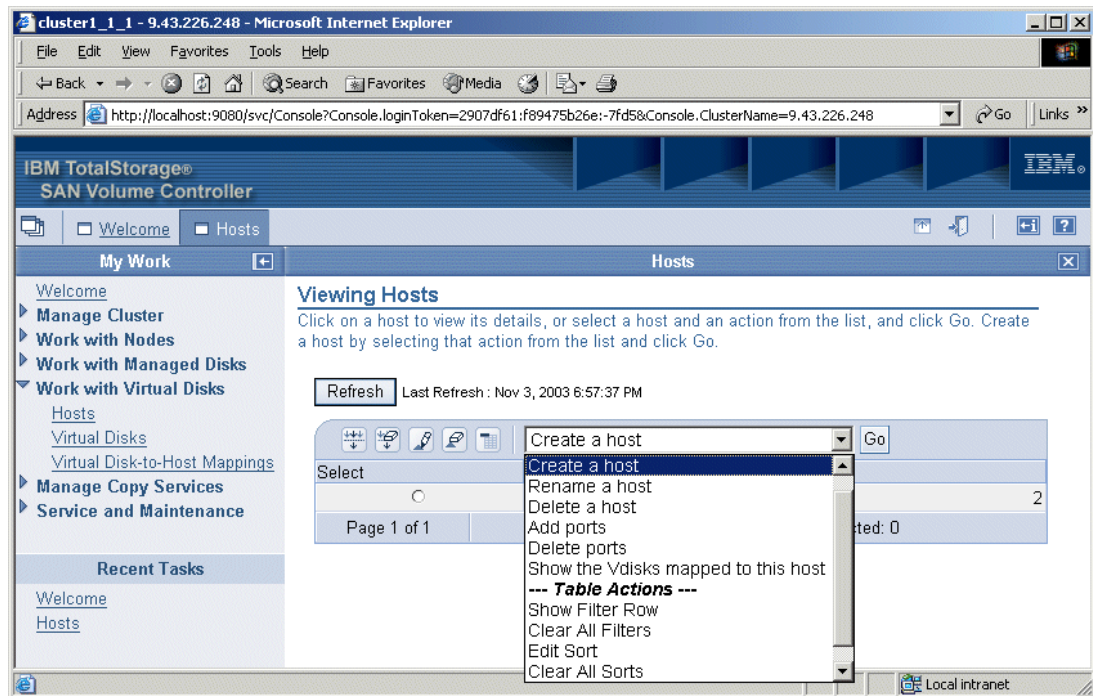

Figure 6-21 Viewing Hosts panel
3. The Viewing Hosts panel (Figure 6-21) opens. Select **Create a host** from the list and click **Go**.